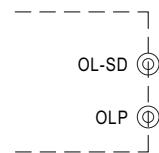

Fig. 5.2 Remove the CN3
(2) Remove the shorting connector on CN3 that is shown in Fig 5.2, the Overload Protection Type will be "continuous constant current limiting".